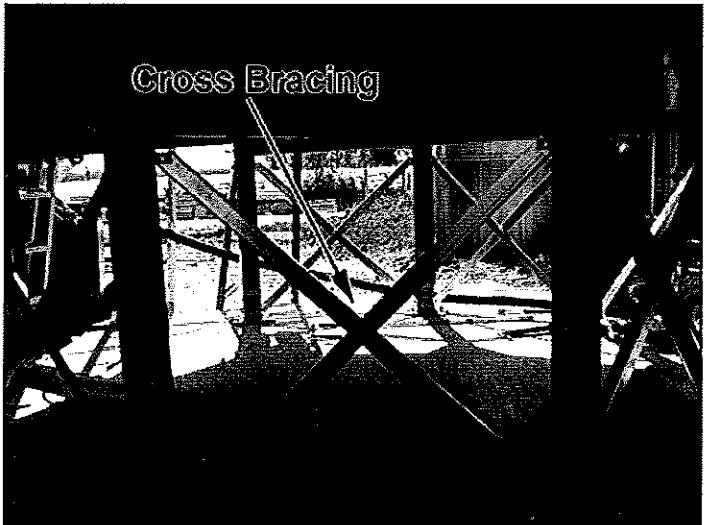

Figure 3
- Set base cooling section in the desired location and rotate base to position electrical supply, fuel supply, and discharge in desired locations. Set base and confirm rotation before releasing lifting straps. All (9) legs must be installed with 5/8 – 11 x 7" Grade 5 bolts. Level base using leg shims.
- If the Tower Dryer is a 101050 or 101275 model, install the Cross Braces. See Figure 3.